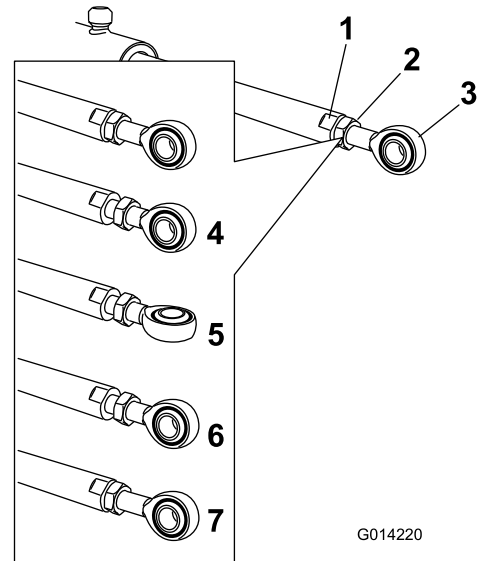

Figure 64
5. Use a wrench on the flat sides of the actuator rod to immobilize it then loosen the jam nut to allow for the eyelet rod to be manipulated (Figure 64).
6. Turn the eyelet rod in the actuator rod to shorten or lengthen the extended actuator to the desired position (Figure 64).